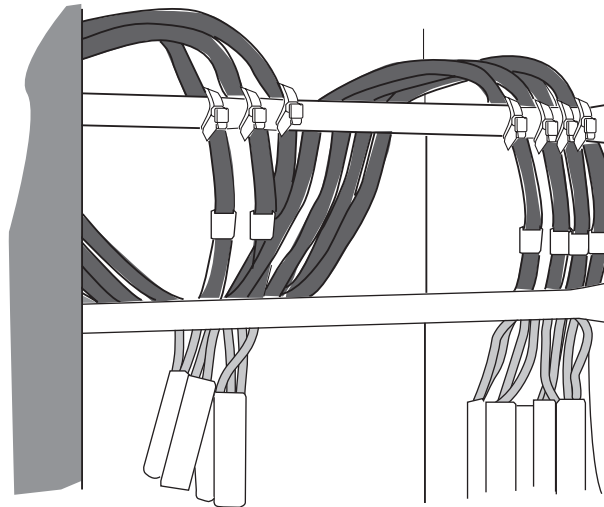

Figure 15. Protector Stubs Laced to Support Bars
- 1 The 325-type protector stubs are already connectorized and arranged on the splicing support bars. An identifying tag shows the pair count of each splicing module as shown in Figure 15 on page 21.